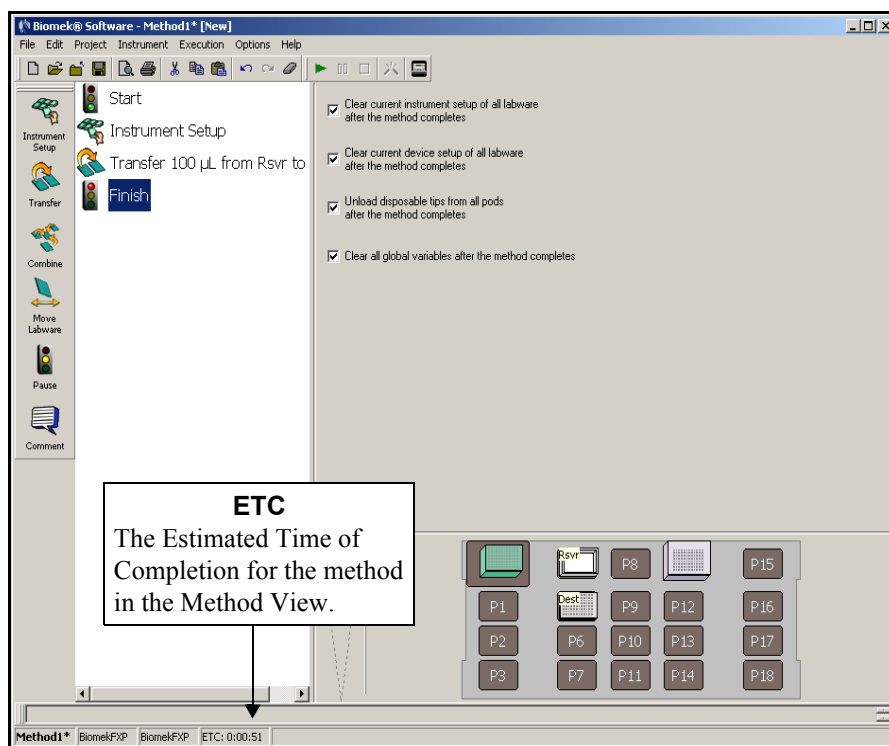

Figure 1-12. Finish step displaying the ETC
2. Check the status bar at the bottom of the editor for a display of the ETC. For this method, the ETC is approximately 51 seconds (Figure 1-12). It's all right if your ETC varies slightly.